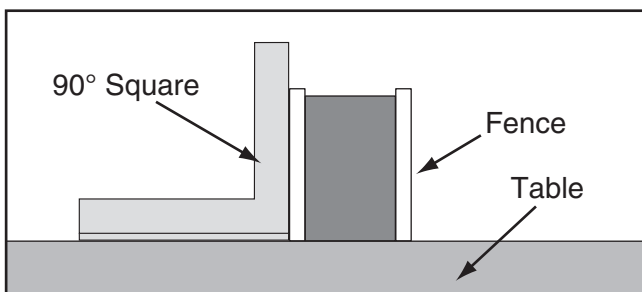

Figure 115. Checking if fence is square to table.
8. Place a square on the table and against the face of the fence, as shown in **Figure 115**, to check if the fence is square to the table.